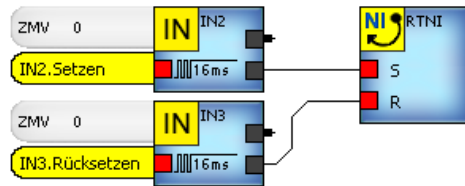

Fig. 32-2
- The RTNI element must be placed and the S input activated once (Fig. 32-2)